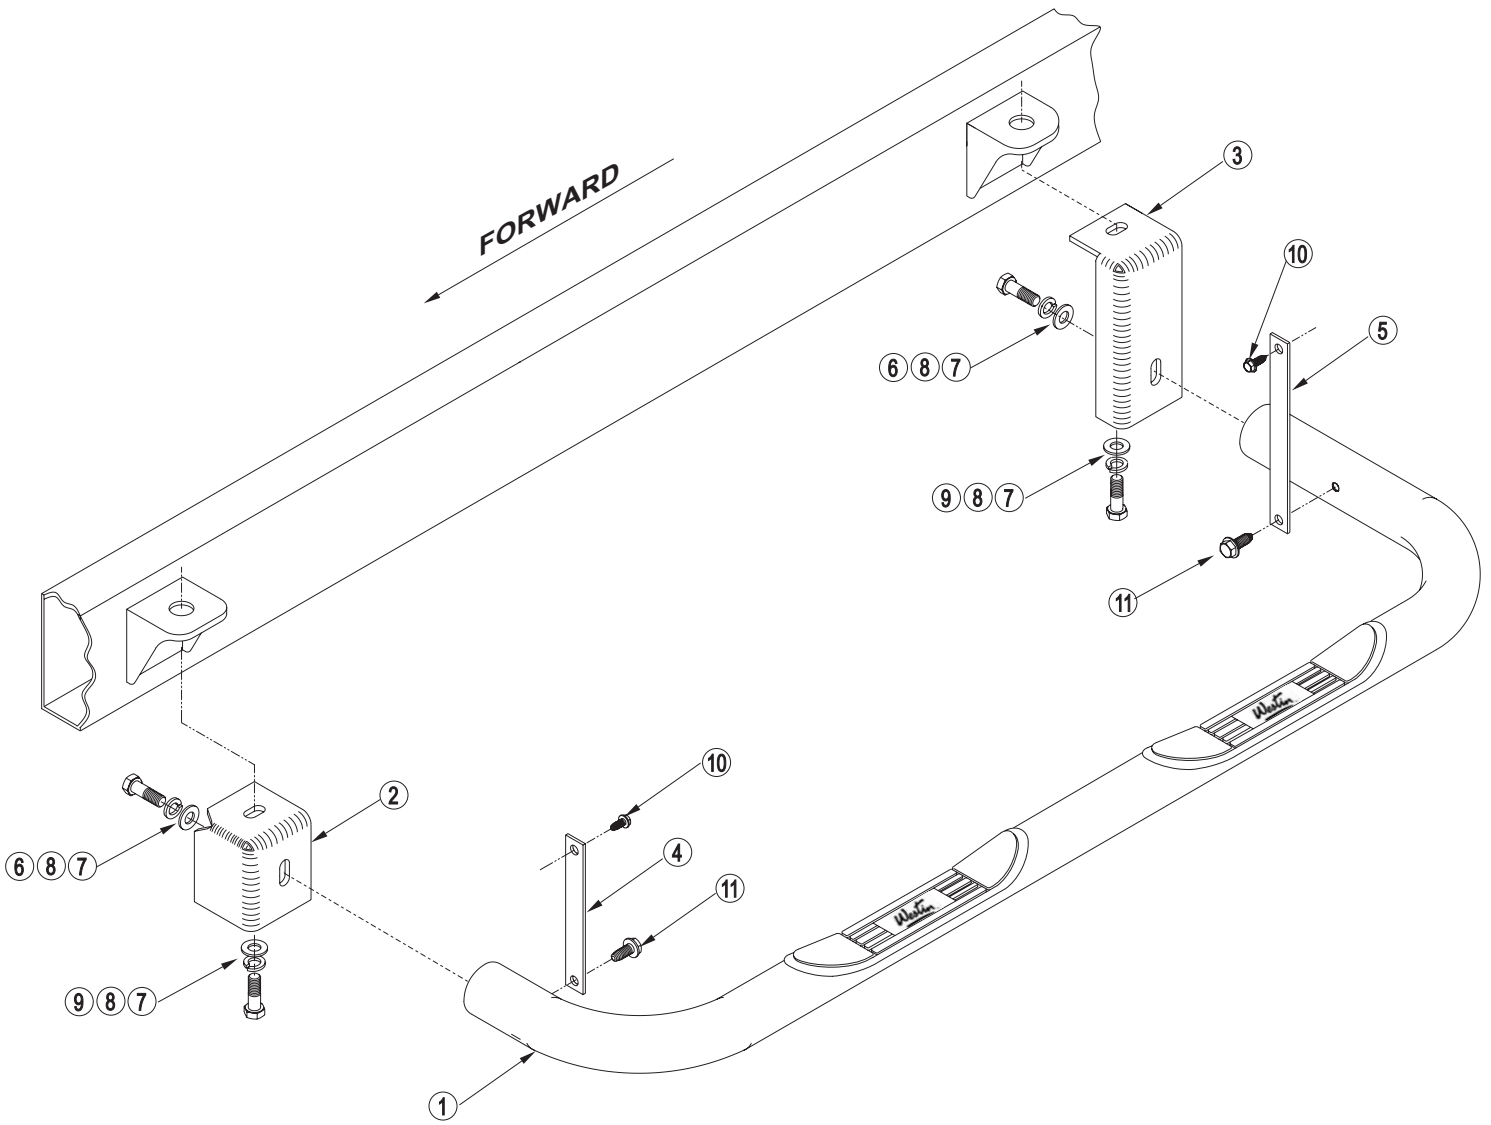

FIGURE 1
STEP 3. Install front and rear brackets to step bar as shown. Hand tighten. **SEE FIGURE 1.**
STEP 4. Attach step bar to vehicle as shown. Make sure step bar and brackets are properly aligned. Tighten and torque M12 hardware to 55 ft-lbs. and 1/2" hardware to 65 ft-lbs. **SEE FIGURE 1.**
STEP 5. Attach front and rear straps to step bar as shown. Align vertically. Tighten and torque 3/8" bolts to 20 ft-lbs. **SEE FIGURE 1.**
STEP 6. Attach front and rear straps to underside of vehicle as shown. Tighten and torque 1/4" bolts to 50 in-lbs. **SEE FIGURE 1.**